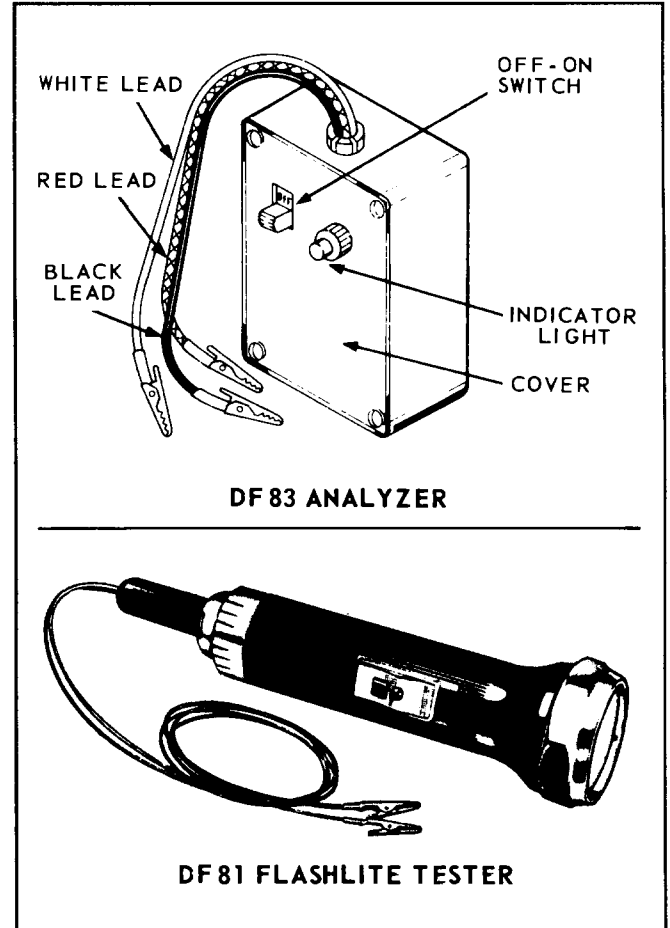

Fig. 44
- DF83 Analyzer - Wisconsin Part, Fig. 44
- DF81 Flashlite Tester - Wisconsin Part, Fig 44